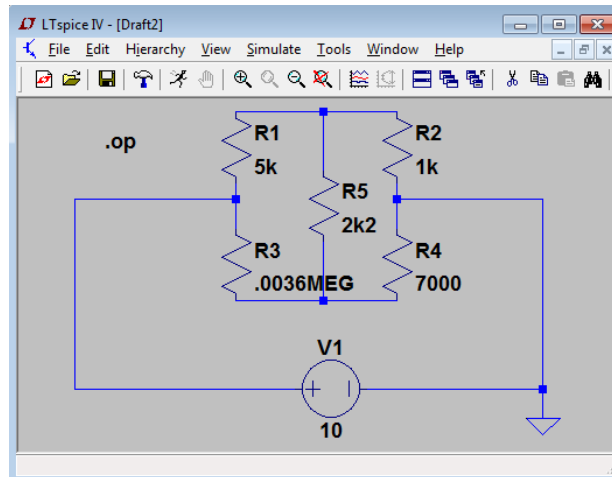

Figure 1: A series and parallel resistor circuit.
- Recreate the circuit shown in Figure 1 by clicking on the various component icons in the LTspice toolbar and then clicking to place various components on your schematic. Once you have a component on your schematic, you can right click on it to set its properties and value. Note that SPICE (including LTspice) uses a non-standard way of specifying value multipliers, shown in Table 1.
- The voltage source at the bottom of Figure 1 can be found by clicking on the “Component” button (just to the left of the “Move” hand on the toolbar) and selecting the “voltage” component from the base symbol library (C:\Program Files (x86)\LTC\LTspiceIV\lib\sym\ on Windows).